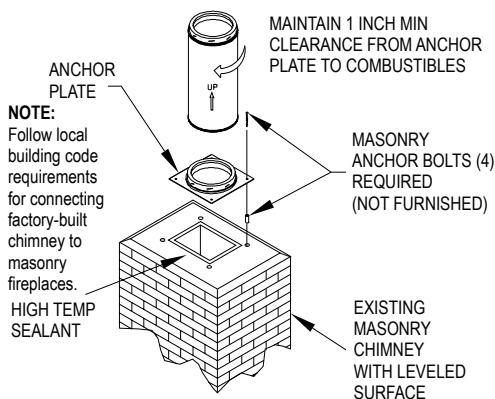

Figure 30
fireplaces begin with an Anchor Plate. Make sure the surface of the masonry chimney has a level surface on which to attach the Anchor Plate. If the top of the masonry does not have a level surface, then you will need to modify the masonry accordingly. Follow the requirements of your local building department for connecting factory-built chimneys to masonry fireboxes or masonry chimneys. Center the Anchor Plate over the masonry flue opening, and seal the Anchor Plate with a high-temperature (1000°F) sealant. Secure Anchor Plate with at least (4) 1/4" x 4" masonry anchors (**Fig 30**). It is very important that the Anchor Plate is level. *Be sure to maintain a 1" min. clearance to combustibles from the Anchor Plate.*